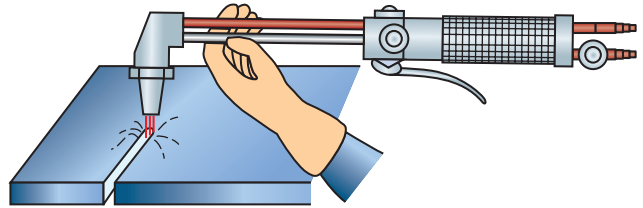

FIGURE 6-54 Bracing your hand on the tractor tongue will help keep you steady as you make the cut. Courtesy of Larry Jeffus.
- **Brace yourself**—The tip of a cutting torch is nearly a foot from your hands as you cut. This distance amplifies the slightest movement of your hand, which translates to grooves and notches in the cut. It is easier to brace yourself so you can make good cuts in the shop than in the field. In the field, you may be working in awkward positions and small spaces. One way of steadying yourself is to lean against the equipment you are working on. Even just resting your hand can help, Figure 6-54. Before even lighting the torch, practice how you can move across the cut and which way would be best to brace yourself.